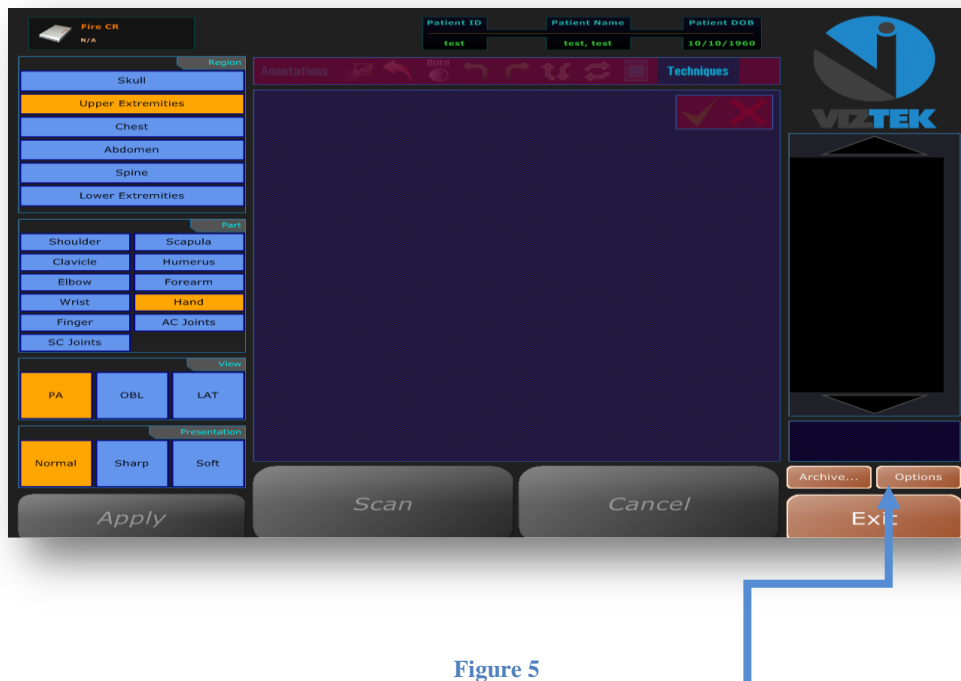

Figure 5
6. Left click, *Add New Image* button, which opens the Acquire screen. **Figure 5**
7. Select the *Options* button in the lower right hand corner to open the Configuration screen. **Figure 5**